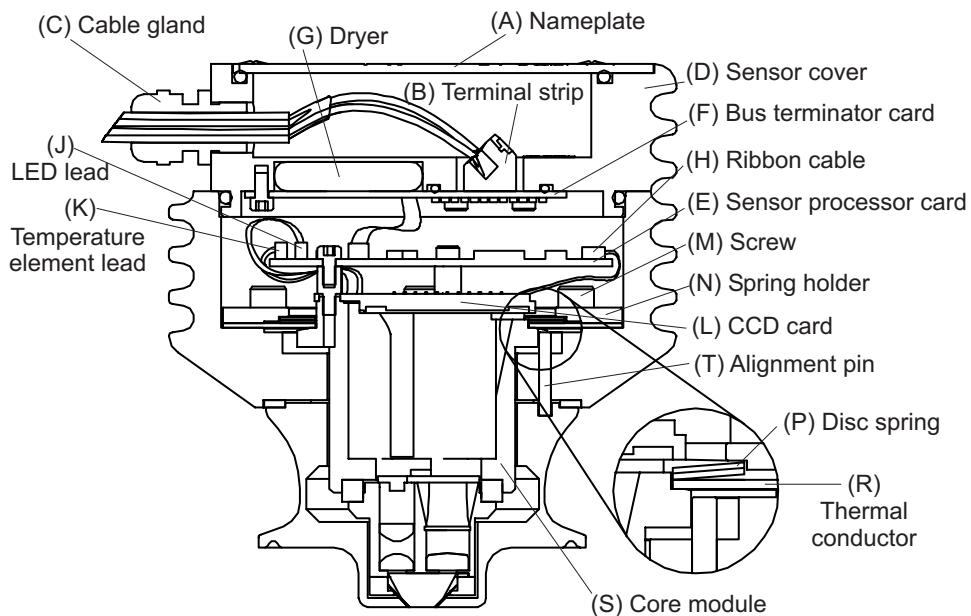

Figure 7.1 Sensor in disassembly position
The dryer (desiccant) is a transparent plastic package inside the sensor head cover, see Figure 7.1 (G). When the dryer is **yellow**, it **is effective**. When it turns **green**, it **needs to be replaced**. The dryer cannot be reactivated by any means, it *must* be replaced. You can order new dryer packages (drying agents/desiccants), spare part number **PR-9108**, from either K-Patents or a K-Patents representative.
The letters in the text refer to Figure 7.1. The instructions are valid for all PR-23 models.
3. Disconnect wires from terminal strip (B) and remove cable from cable gland (C).
4. Fix the sensor so that the sensor head is in a vertical position, as shown in Figure 7.1.
18. Mount the core module (S), Figure 7.1. Note the alignment pin (T).
19. Mount the thermal conductor (R) with the holes aligned to the screw holes. Mount the disc springs (P). Figure 7.1 shows which side of the springs should be up.
Cause: The current in the cable to this sensor is in the correct range 20–60 mA, but no data is coming in from the sensor. This indicates that the Sensor processor card (Figure 7.1) is faulty.